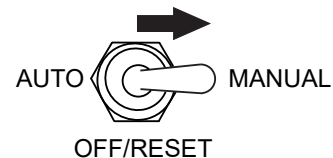

Figure 49. Auto Start/Stop Switch (Manual Position)
2. To start the engine, place the **Auto Start/Stop** switch in the **MANUAL** position (Figure 49).